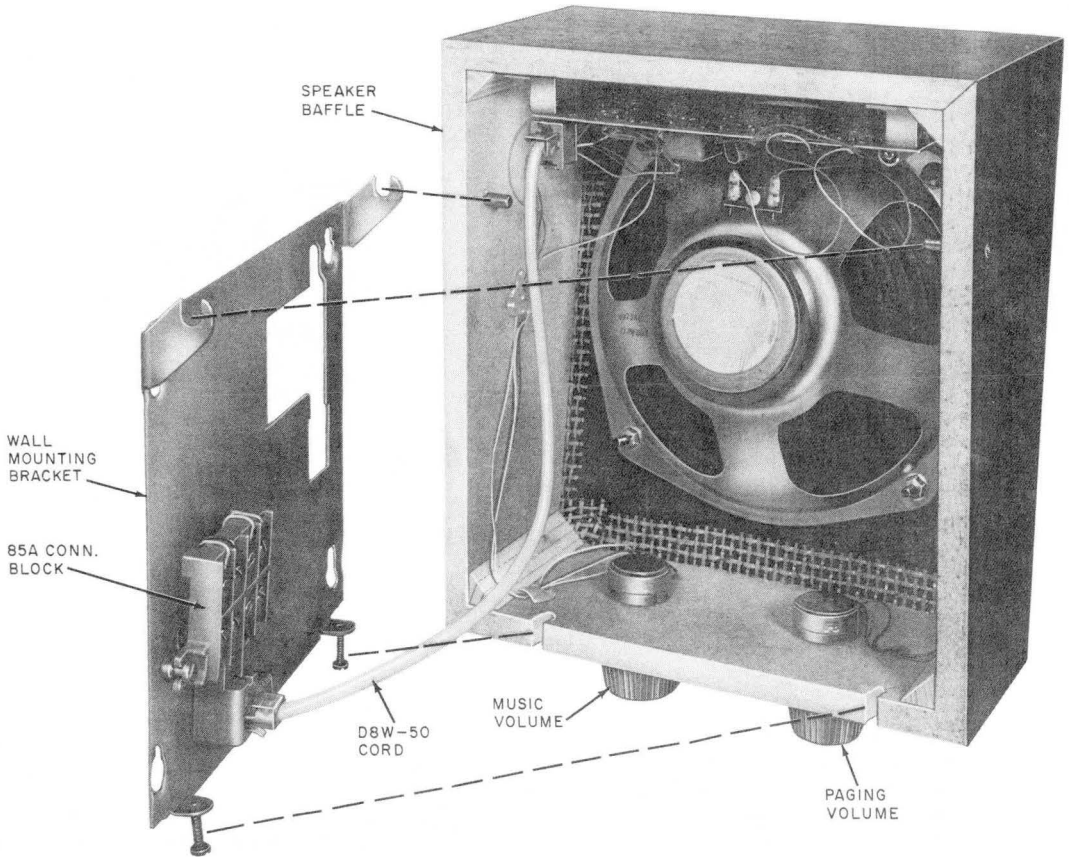

Fig. 30—109A Loudspeaker Set (New Model)
(Fig. 30). Unplug the D8W cord from the 85A block.
(5) While holding the loudspeaker baffle up near the wall bracket, plug the free end of the D8W cord into the modular jack of the 85A block (Fig. 30).
(6) Mount the loudspeaker baffle on the wall bracket by hooking the two pins on the inner sides of the baffle into the two mounting slots of the wall bracket. Press the baffle down against the bracket so that the two slots in the lower edge of the baffle fit over the two locking screws of the wall bracket; tighten the screws.
(7) After all installation is complete, adjust and test each loudspeaker as described in paragraph 3.44.